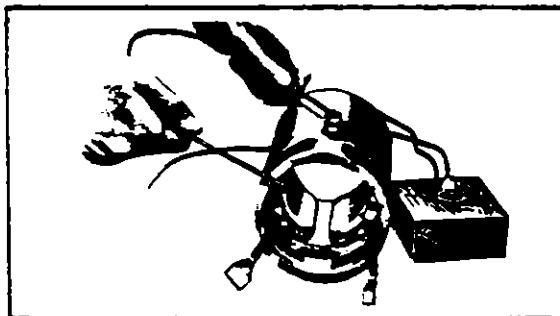

FIGURE 9-29d. TESTING MOTOR FIELDS FOR GROUNDS
a. Check the field coils for grounds (Refer to Figure 9-29d) by placing one test probe the frame and the other on the starter terminal. Be sure the brushes are not accidentally touching the frame. If the lamp lights, the fields are grounded. Repair or replace.